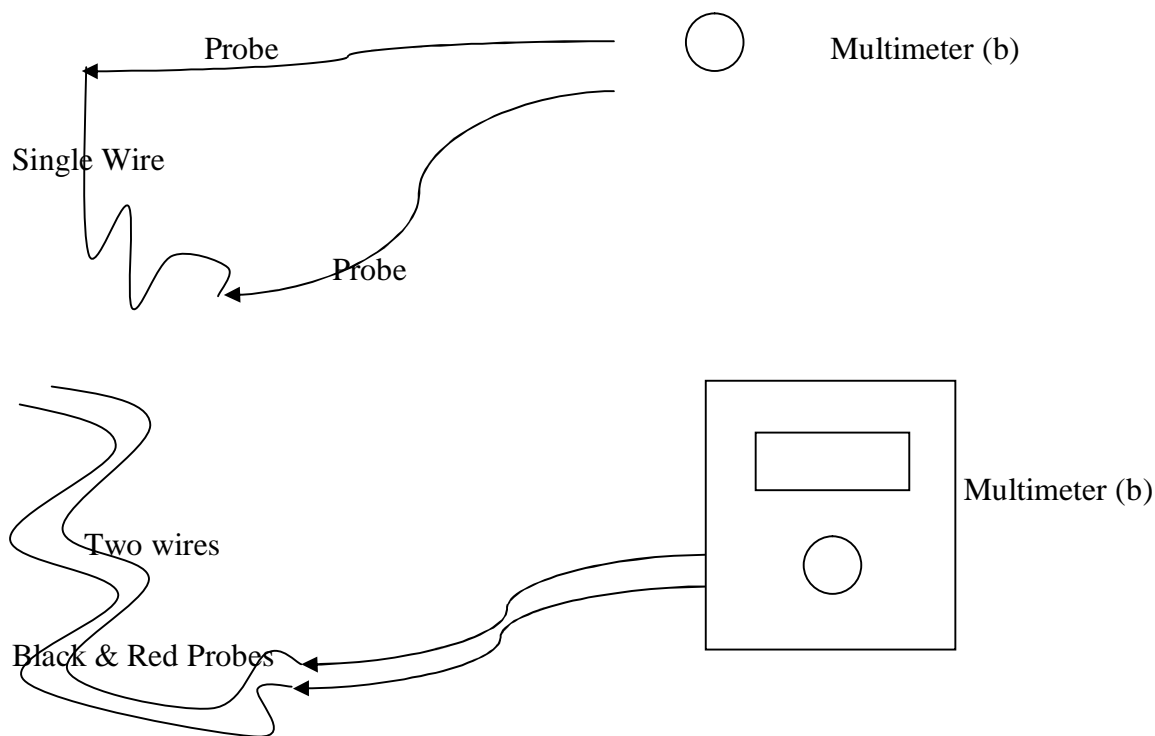

Figure 2.10: Continuity Test on (a) Single Wire and (b) Two or More Wires
1. Connect the multimeter probes to any exposed conductor of the two wires as shown in Figure 2.10 (b);